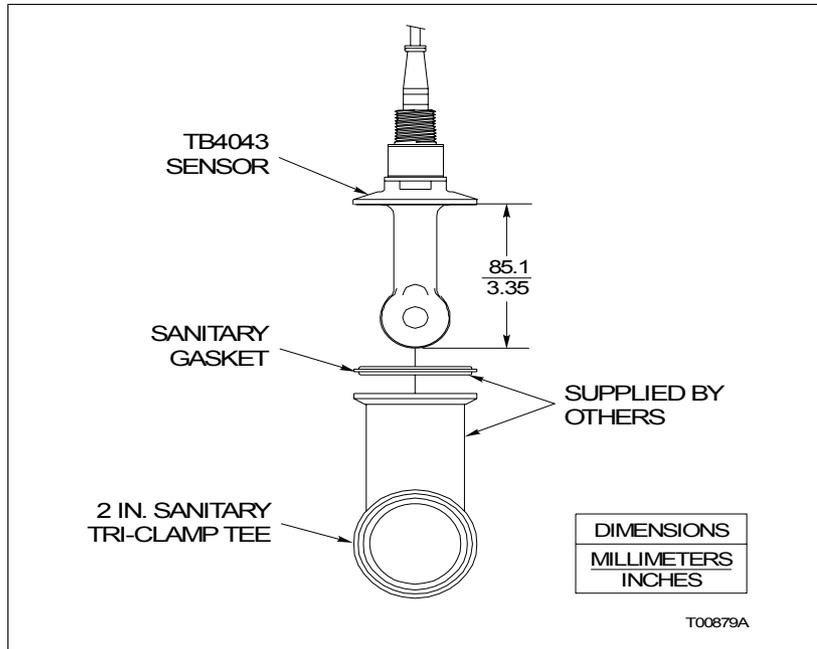

Figure PR4-1. Sanitary In-Line Flow Assembly
1. Install the sanitary gasket onto the two-inch sanitary tri-clamp tee (Fig. PR4-1).